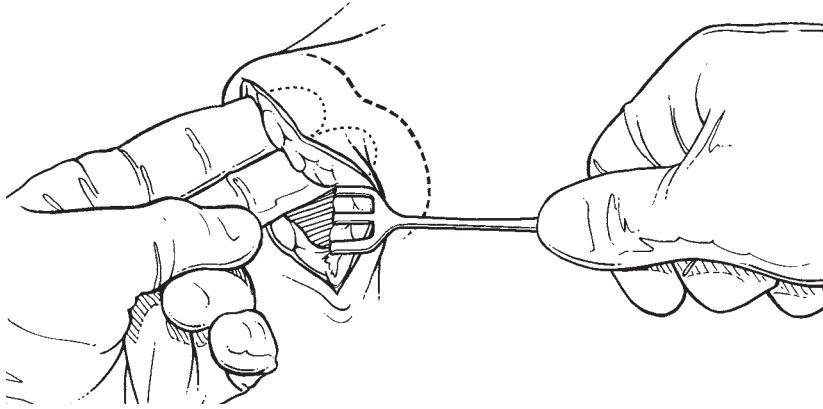

FIGURE 47
- 3 Use blunt dissection and/or electrocautery to create a subcutaneous pocket and to maintain hemostasis (FIGURE 47).